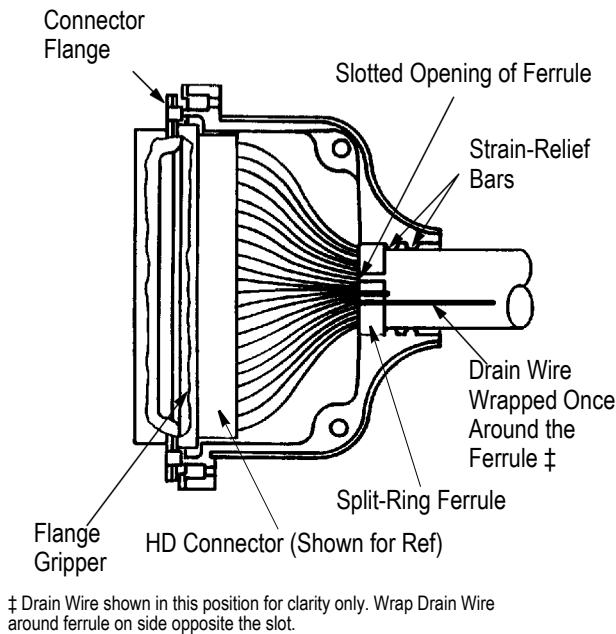

Figure 10
6. Position one half of cable clamp on cable and connector. Ensure that flange of connector is behind flange gripper of clamp and that ferrule is positioned against inner strain-relief bar of cable clamp (see Figure 10).
*The strip length dimension range is designed to accommodate a variety of cable designs. In order to determine the proper strip length, before beginning production runs, consideration must be given to the flexibility and type of wire, bundling of wire due to circuit arrangement, and other like factors. In any case, the ferrule placement discussed in the assembly procedures must be per Figure 10 for split ring ferrules and per Figure 11 for crimp ferrules. **Mass termination hand tooling dimension pertains to HDE connectors ONLY.